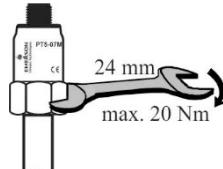

Fig. 2:
**Flare Connections: (Fig. 2)****PT5-xxM Series**